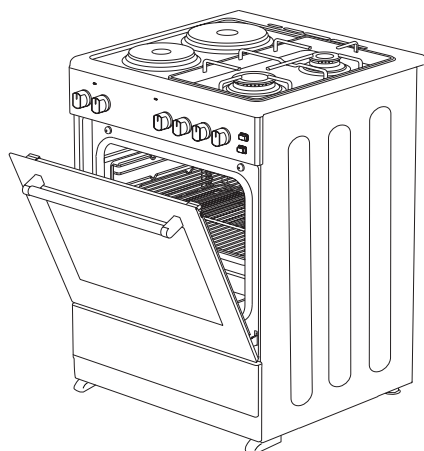

Figure 28
4. And then secure the safety panel in between oven and front cover by gently closing the cover. (Figure 28)